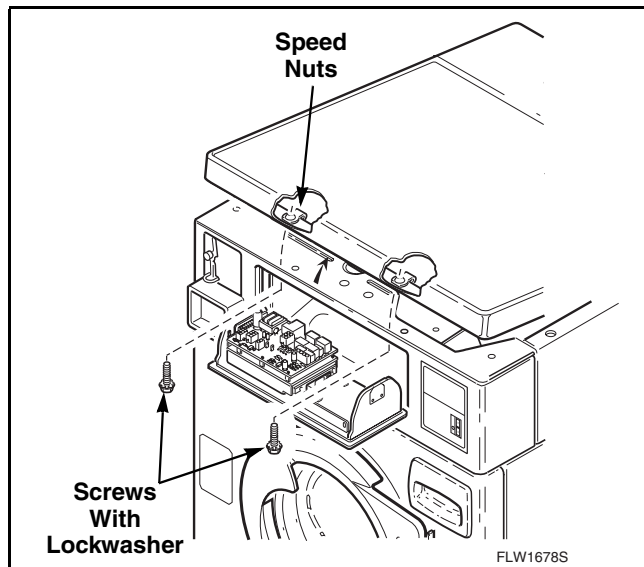

Figure 13
- Remove two screws holding front of cabinet top to top front edge of control cabinet front. Refer to *Figure 13*.
- (4) Remove two screws holding front of cabinet top to top front edge of control cabinet front. Refer to *Figure 13*.
- (5) If area or space permits, lift cabinet top to a vertical position by hinging it on the rear hinges.
- d. Remove two screws holding front of cabinet to top front edge of control cabinet front. Refer to *Figure 13*.